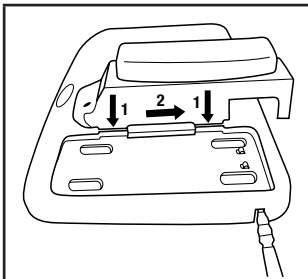

Fig. 1b
- 3M™ 4-Station Battery Charger Tray TR-944N: Insert the 3M™ Battery Charger Cradle TR-640 into one of the charging ports on the TR-944N and slide back to lock into place (Fig. 1b). (**NOTE:** The TR-941N power cord is not used with the TR-640, when the 4-station charger is used.) Insert the DC supply cord supplied with the kit into the 4-station base. Plug the power cord into an AC power source (100-240V), such as a wall outlet. You may charge any combination of up to four 3M™ Battery Packs simultaneously.